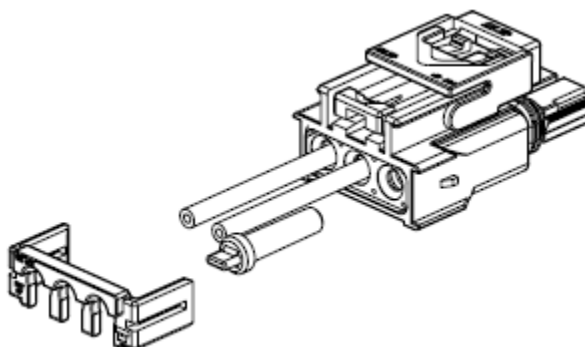

Figure 14
3. Align sealing plug with the appropriate cavity at the back end (wire side) of the plug or cap housing. See Figure 14.